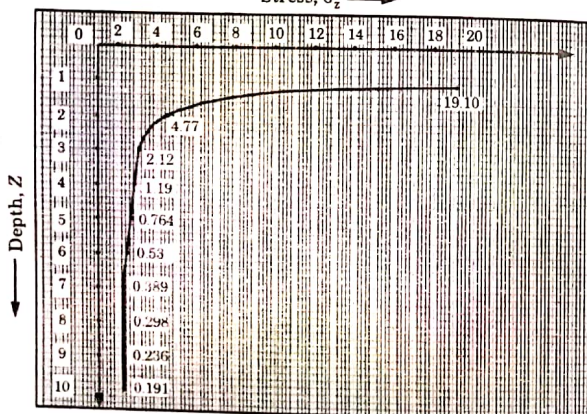

Fig. 1.
D. Graph : Plot for the vertical stress variation is shown in Fig. 1.